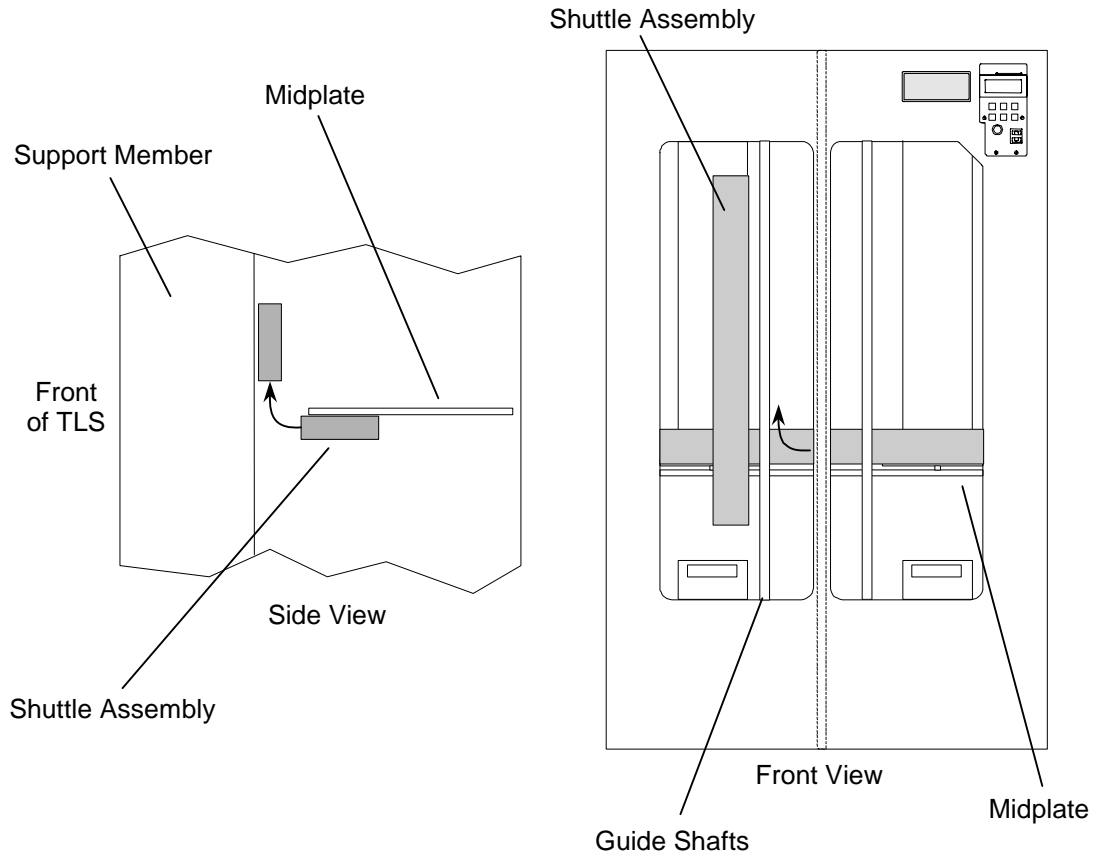

Figure 7-82 Two Views of Shuttle Assembly Removal from TLS
9. Using both hands pull the Shuttle Assembly towards the front of the TLS while tilting it upwards to clear the Midplate, the guide shafts and the support member in the center of the front opening (Figure 7-82).
10. When the Shuttle Assembly has cleared the Midplate, the support member and the guide shafts rotate it 90 degrees to vertical and remove it through the front of the TLS (Figure 7-82).
1. Hold the Shuttle Assembly in a vertical position with the circuit boards and wiring facing inward and insert it through the front of the TLS. When clear of the support member and guide shafts, rotate the Shuttle Assembly 90 degrees to horizontal (Figure 7-82). Note that when oriented correctly the motor will be facing the left side of the TLS.